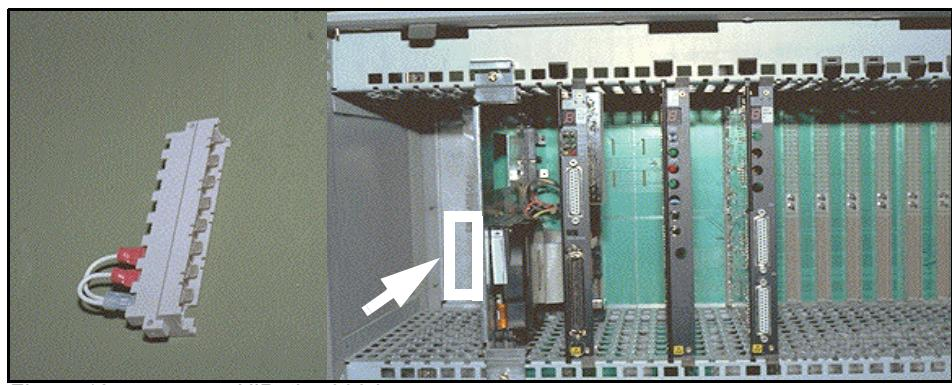

Figure 18 HiPath 4000 jumper
An external system power supply (uninterruptible power supply [UPS] in the U.S.) is a PSU in which a jumper is connected to the system instead of the LPC80 power supply unit (see Figure 18). The jumper feeds the -48 V external power supply to the system. The external -48V is connected from the DC power box to the individual backplanes of the system cabinets.
6. Once the -48V cable is connected, check that the correct jumper is plugged into the designated plug connector for the LPC80 (see Figure 18).